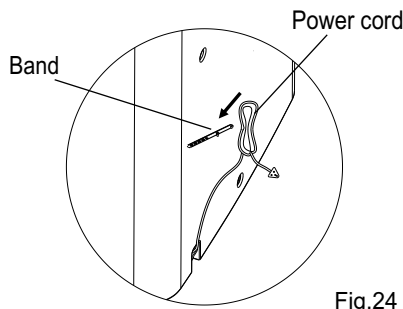

Fig. 24
- Stop the appliance and unplug it, wrapped the cord and bundle it with the buckle (Fig. 24). Remove the batteries from the remote controller.